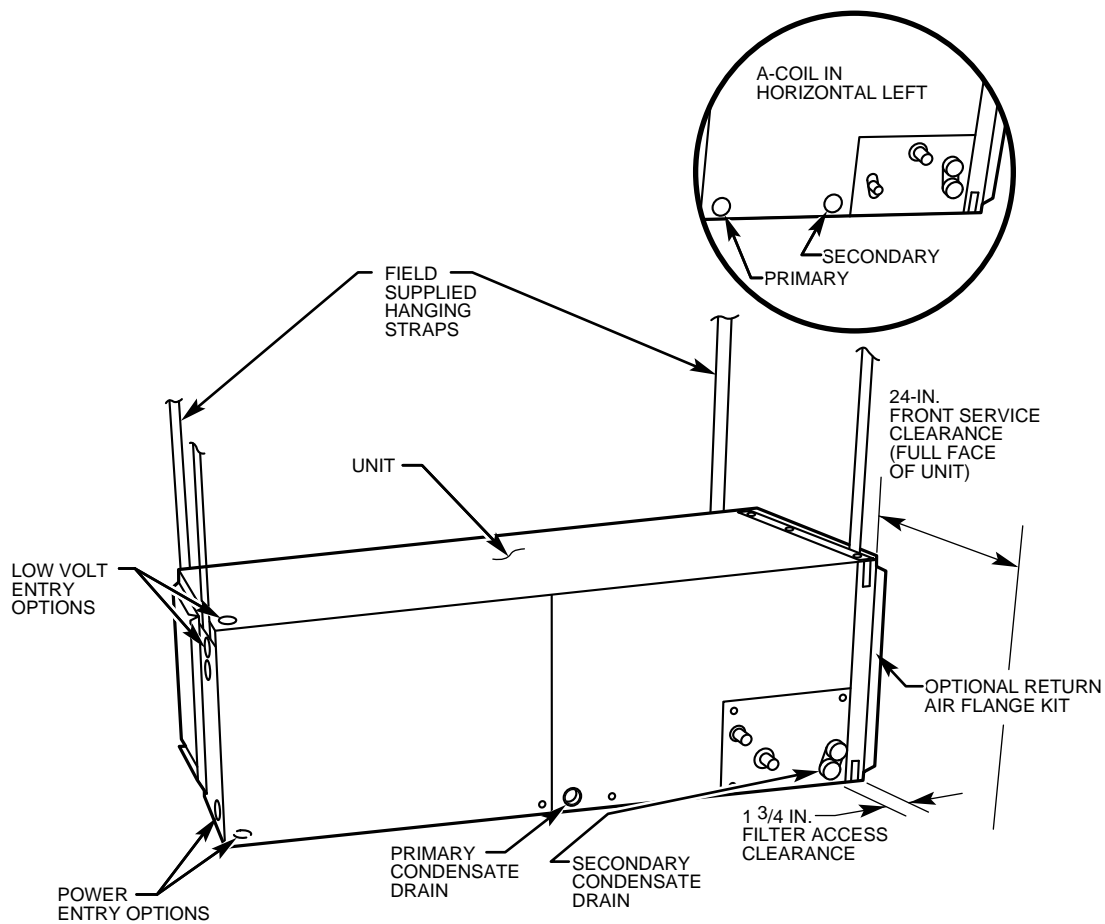

Fig. 6—Slope Coil in Horizontal-Left Application
2. When suspending unit from ceiling, dimples in casing indicate proper location of screws for mounting metal support straps. (See Fig. 6.)